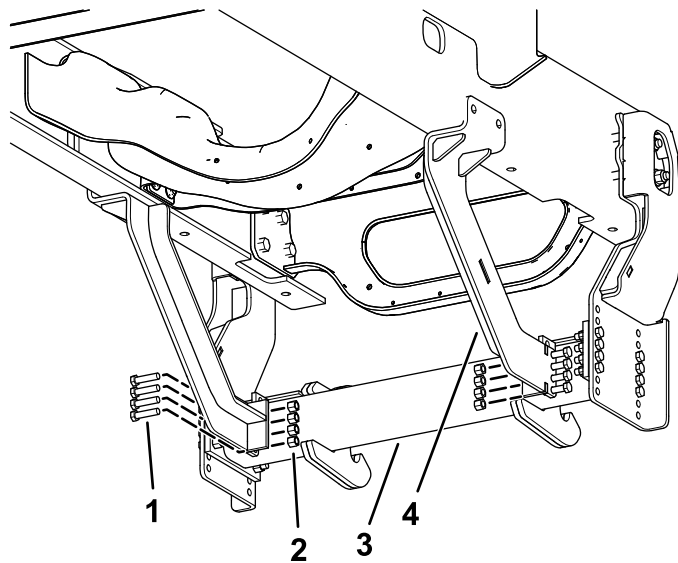

Figure 3
- Secure the angle brackets to the pushbeam assembly using 8 bolts (1/2 x 2 inches) and 8 nuts (1/2 inch) as shown in Figure 3.